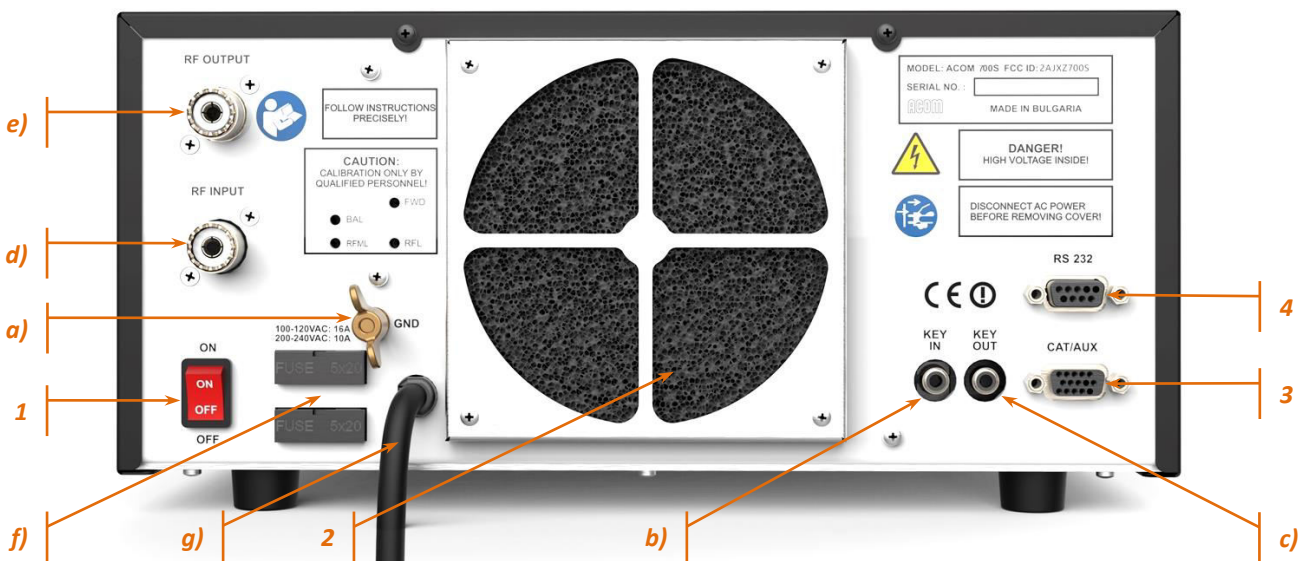

Figure 2-4 | Rear panel - Connections
The ACOM 700S linear amplifier is a Safety Class I unit regarding protection against electric shock. The third grounding lead of its mains cord (which is colored yellow with two green stripes) and the ground stud on the rear panel of the amplifier (marked **GND**, see Figure 2-4 | Rear panel - Connections, Pos. (a)) must be connected to the station's grounding system for safe operation.
For safe operation, the amplifier's grounding stud on the rear panel (marked **GND**, see Figure 2-4 | Rear panel - Connections) should be connected according to the applicable standards and local regulations for electric safety, fire safety and lightning protection, in all cases when the radio station is equipped with outdoor antenna(s)!
Please, see **Figure 2-4 | Rear panel - Connections**.
Use a green and yellow ground wire to connect the wing-nut grounding stud of the amplifier (on the rear panel, marked **GND**) to the station's grounding system. (See **Figure 2-4 | Rear panel - Connections**, Pos. (a))
Run a shielded cable from the "ground on transmit" connector or terminal on your transceiver to the amplifier rear panel **KEY IN** connector (see Figure 2-4 | Rear panel - Connections, Pos. (b)). The **KEY IN** connector uses a standard RCA phono plug.
If your transceiver has a suitable input that disables transmission unless grounded externally, we recommend that you connect it with a shielded cable terminated in a Phono (RCA) connector to the **KEY OUT** connector (see Figure 2-4 | Rear panel - Connections, Pos. (c)) of the amplifier.
Connect a suitable coaxial cable from the transceiver output to the amplifier **RF INPUT** SO-239 connector (see Figure 2-4 | Rear panel - Connections, Pos. (d)), using PL-259 plug.
Connect a suitable coaxial cable with a PL-259 plug from the **RF OUTPUT** (see Figure 2-4 | Rear panel - Connections, Pos. (e)) to the antenna switch or tuner, or to antenna for the respective frequency band.
Please, see **Figure 2-4 | Rear panel - Connections**, Pos. (f).
Please, see **Figure 2-4 | Rear panel - Connections**, Pos. (g).
Please, see **Figure 2-4 | Rear panel - Connections**, Pos. (3).
Please, see **Figure 2-4 | Rear panel - Connections**, Pos. (4).